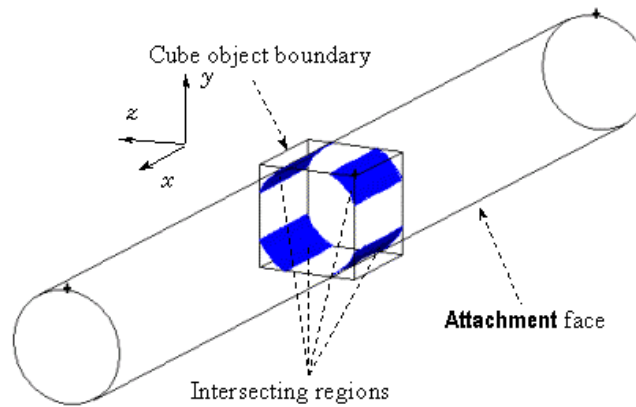

Figure 9.5.11: Face Attachment Entity on a Cube, Halfspace (0) and (-)
For example, the cube object shown in Figure 9.5.11 is defined with the cylindrical pipe face as the **Attachment** entity, and the **Dimension** is such that the cube object extends beyond the boundaries of the pipe. As a result, only those regions of the cylindrical **Attachment** face that are intersected by the cube are displayed.
*In Figure 9.5.11, the cube object is defined with the **Halfspace** (0) and (-) options. Without the **Halfspace** (-) option, only the outlines of the intersecting regions will appear on the display.*